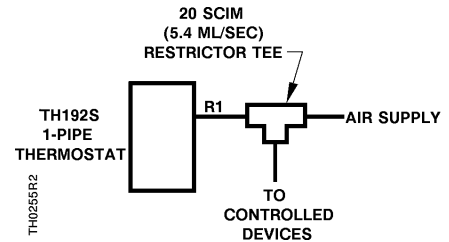

Figure 2. TH192 S One-Pipe Thermostat Connections.
**NOTE:** All piping (see Figures 2 and 3) must conform to local codes and regulations and must comply with the local authority having jurisdiction.